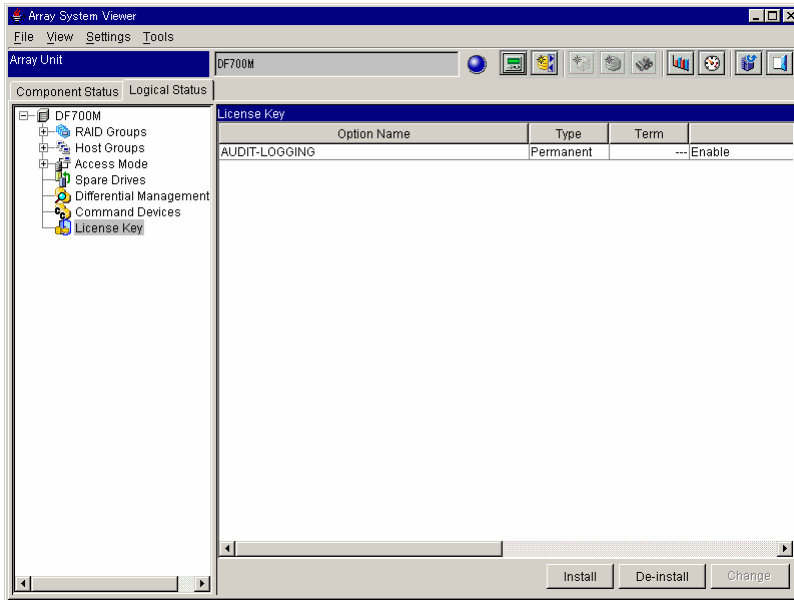
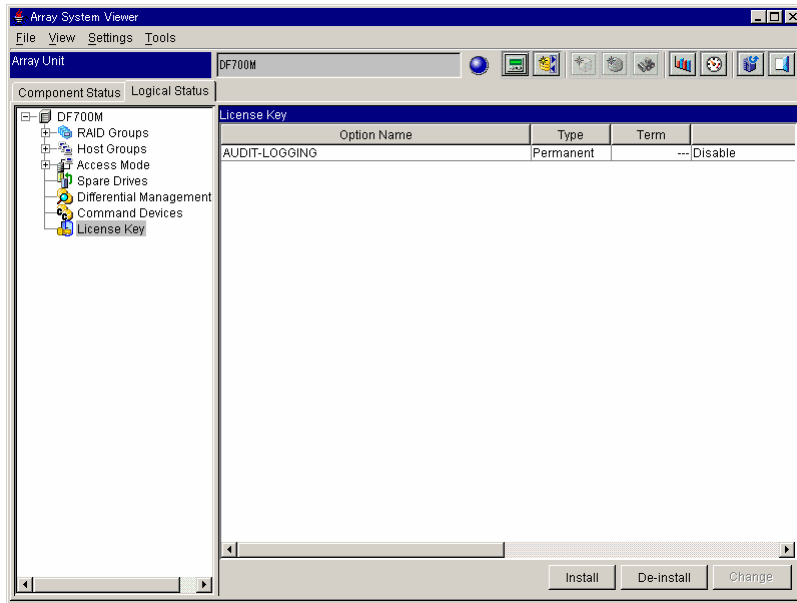

Figure 4.9 Audit Logging Enabled
Figure 4.10 Audit Logging Disabled
5. The License Key window will display either **Enable** (see Figure 4.9) or **Disable** (see Figure 4.10).
2. The Array System Viewer displays. Click the **Logical Status** tab, then click the **License Key** icon to display the License Key window (refer to Figure 4.9).